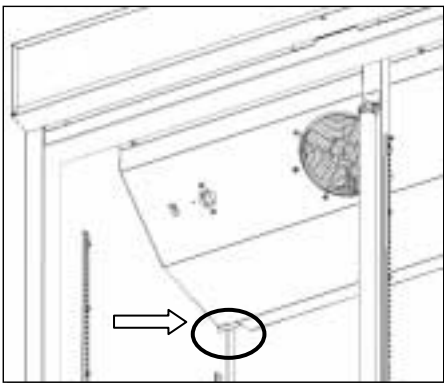

FIGURE 11 – EVAPORATOR COVER SUPPORT
5. Hold the cover until it is completely loose and hanged by the supporting pins. (See Figure 11).